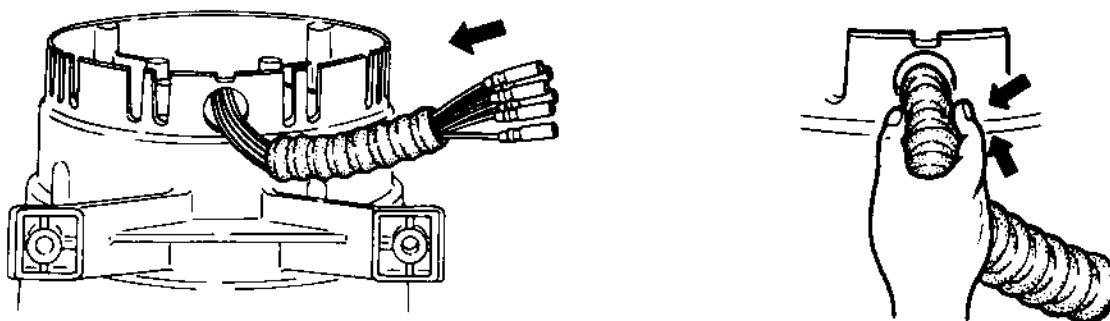

Fig. 10-29
- (7) Attach the boot over the lead wires drawn out from the rear cover. Press the smaller end of boot into the rear cover. (See Fig. 10-29.)